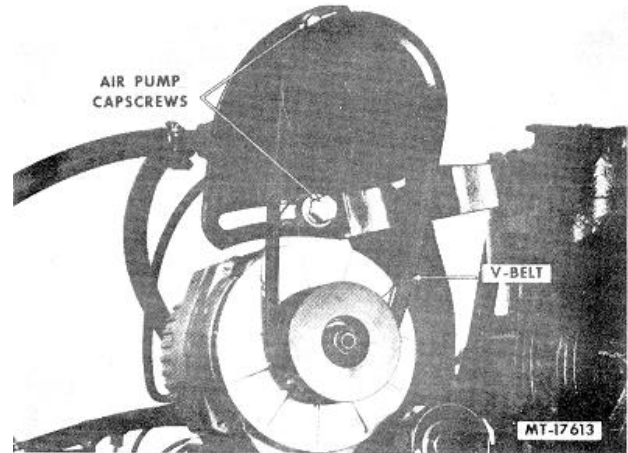

Fig. 13
8. Loosen air pump capscrews and slide air pump downward (Fig. 13). Remove air pump drive belt.